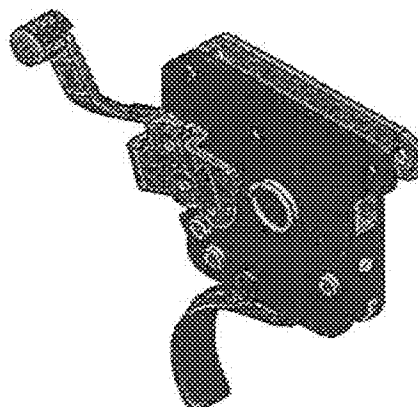

Figure 4
3. Slide the safety assembly into the opening at the rear of the trigger housing as shown in Figure 4. Bias the camming leg of the safety against the inside surface of the right hand side plate of the trigger housing. Insert a bolt stop pin thru the pivot hole to temporarily secure the safety to the housing (if necessary).